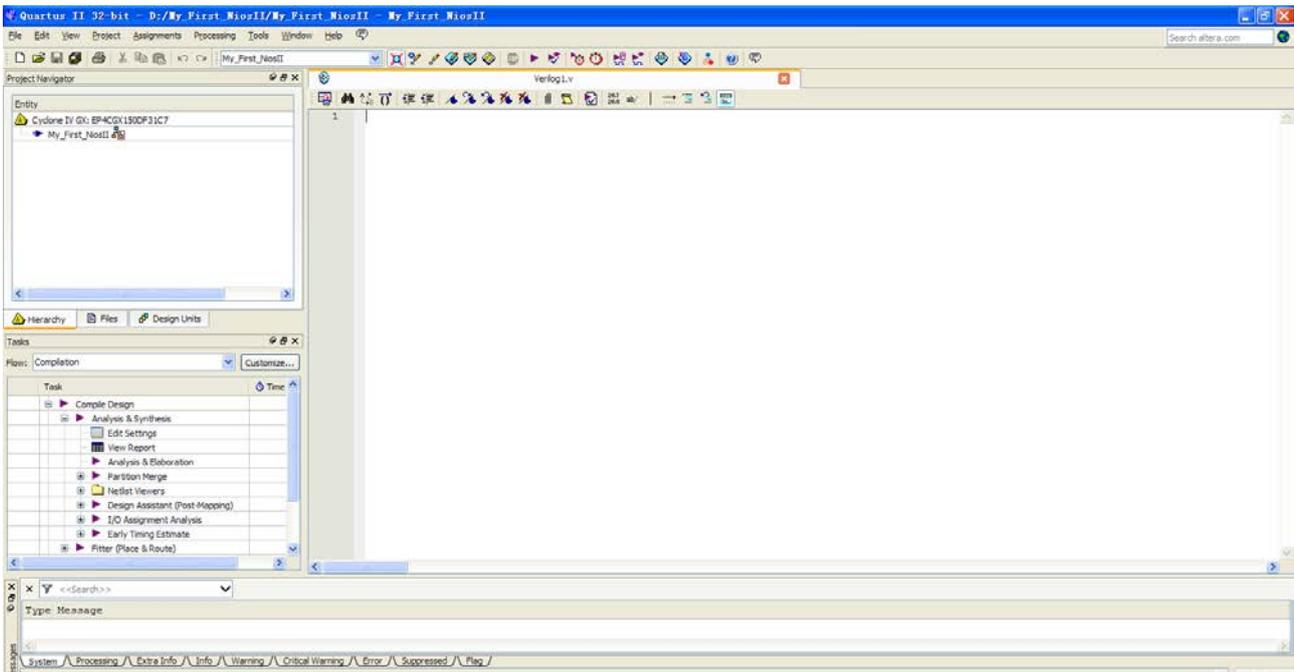

Figure 1-53 A blank verilog file
33. Choose **Verilog HDL File** and click **OK** to return to the window as shown in Figure 1-53. Figure 1-53 show a blank verilog file.